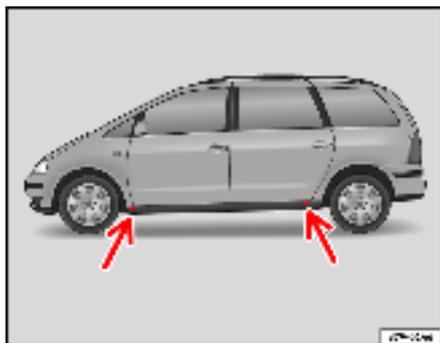

Fig. 159 The jacking points
1. Look for the jacking point ⇒ fig. 159 (arrow) ⇒ ⚠ closest to the tyre which has to be changed.
The jack may be applied only at the jacking points shown ⇒ fig. 159. The front jacking point is approx. 11 cm from the wheel arch. The rear jacking point is approx. 14 cm from the wheel arch. Notches on both sides in the sills show where the jacking points are under the vehicle.